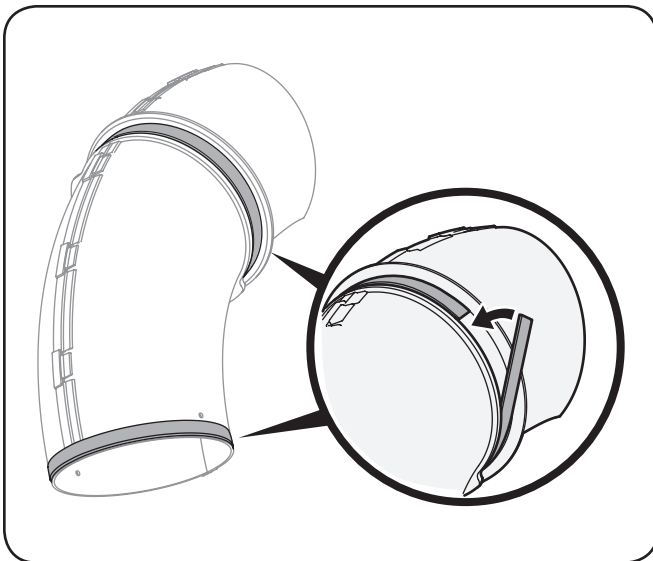

Figure 5-14
1. Peel the backing off of one of the narrow self-adhesive foam strips that has been included with your grass collector. Apply it to the upper chute, flush against the flange as shown in Figure 5-14.
2. Peel the backing off of the other narrow self-adhesive foam strip and apply it to the bottom edge of the upper chute tube, flush against the edge as shown in Figure 5-14.